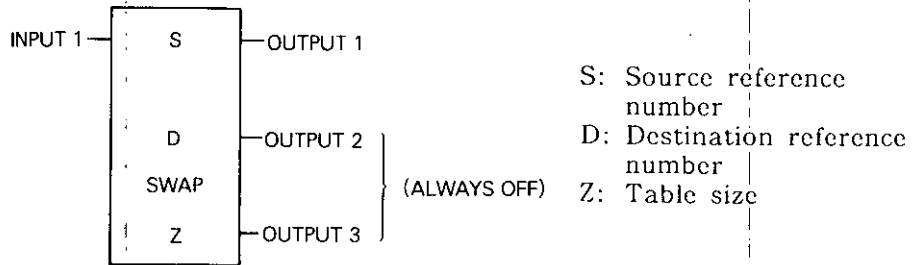

Fig. 5.74 SWAP General Form
- Fig. 5.74 shows the form of swap.